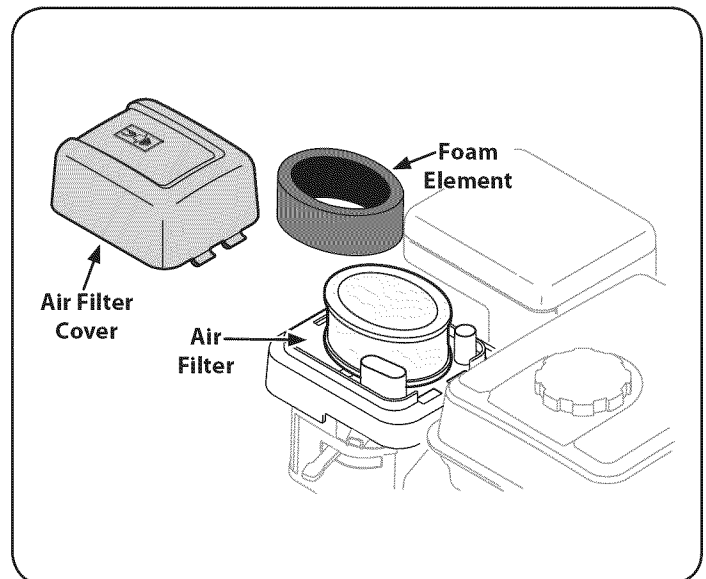

Figure 23
1. Press the tab on the air filter cover, lift the cover and remove the air filter. See Figure 23.